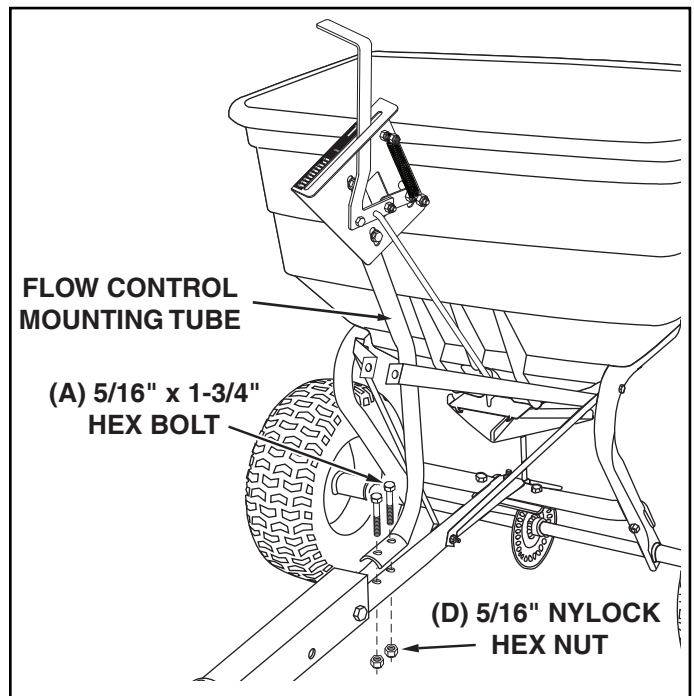

FIGURE 7
13. Assemble the flow control mounting tube to the hitch tube using two 5/16" x 1-3/4" hex bolts (A) and 5/16" nylock hex nuts (D). **DO NOT TIGHTEN YET.** See figure 7.